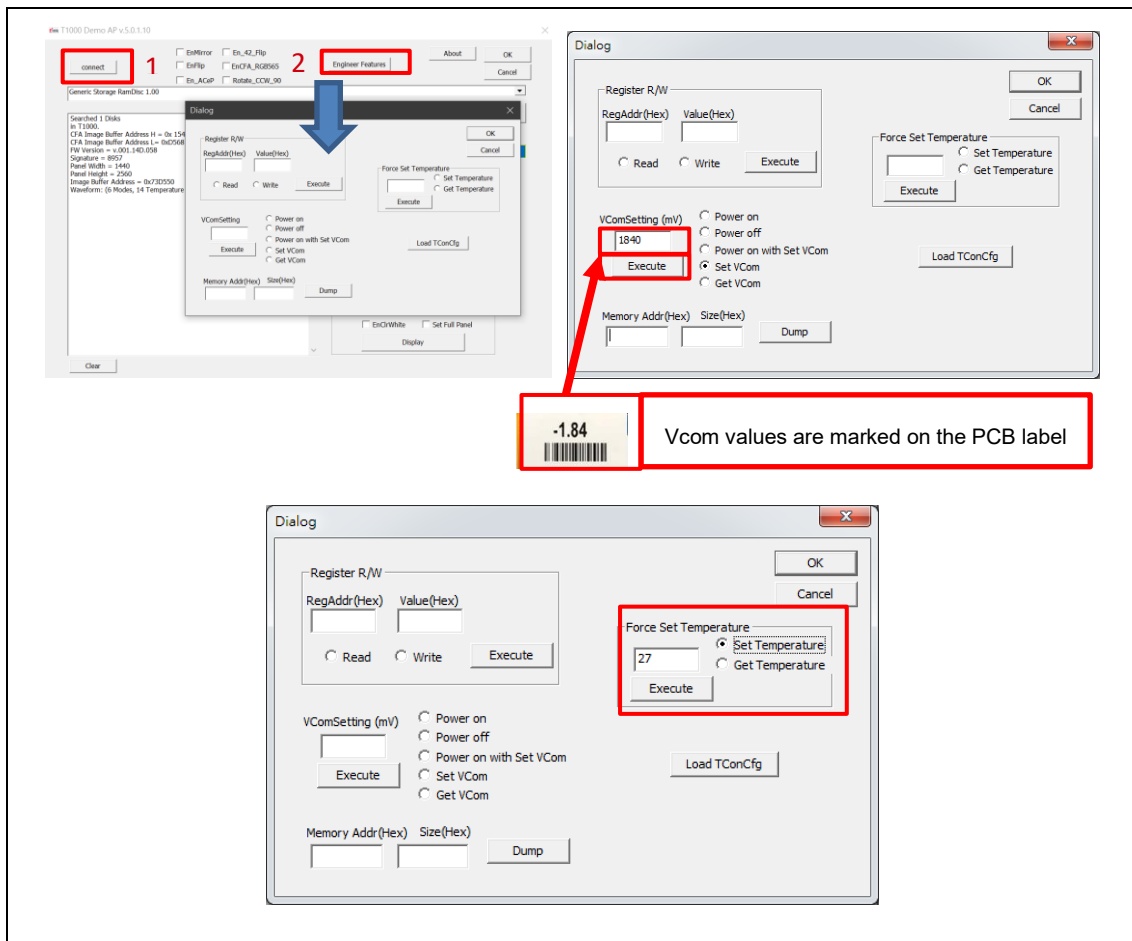

Figure 3.7
(5) How to set VCOM & temperature
- Execute T1000 Demo AP (refer to Figure 3.7)